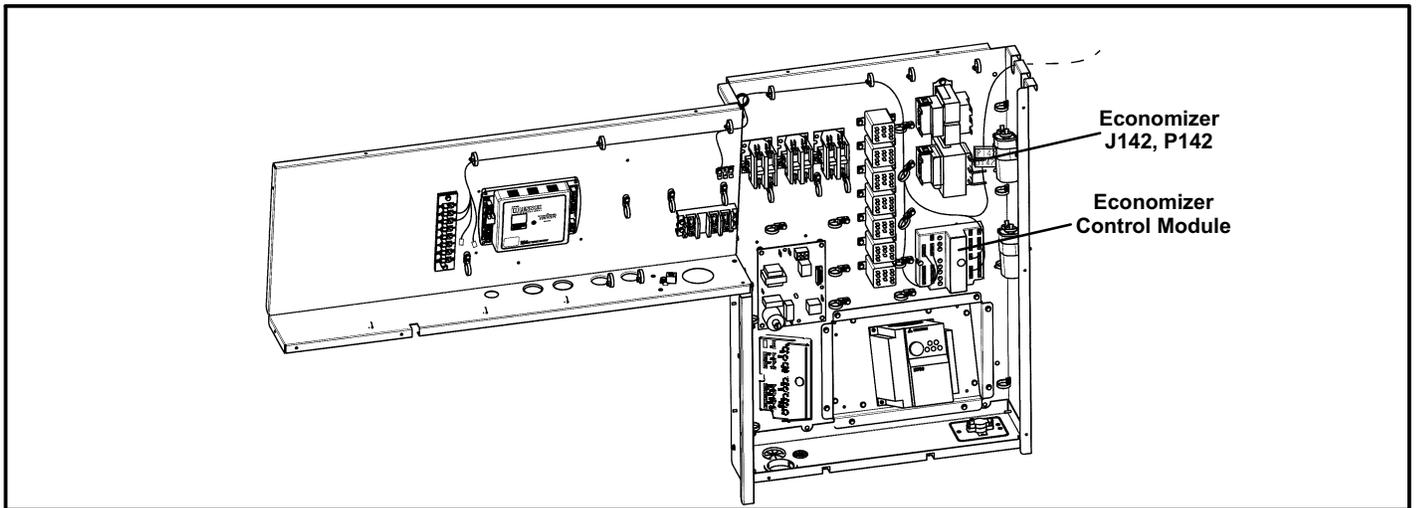

FIGURE 31
1- The economizer control module is located below the actuator for shipping. Relocate the control to the unit control box, see Figure 31.
- 2- Route the control wires to unit terminal block (TB1) and connect these wires to TB1 as following (see Figure 31):